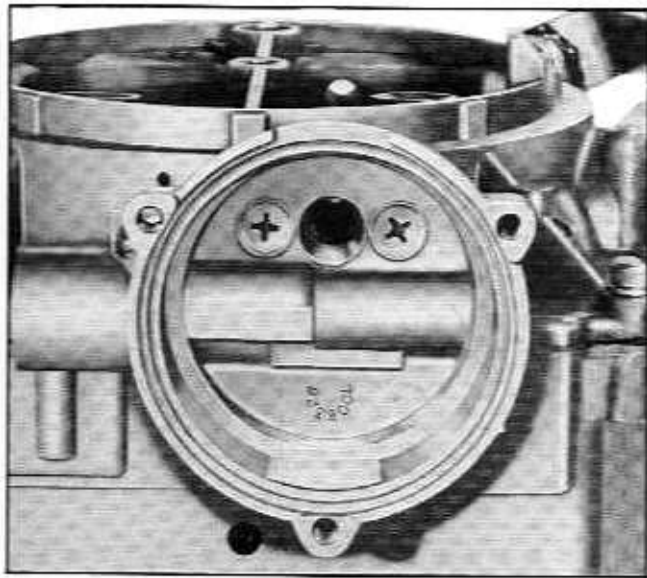

Fig. 6B-81 Location of Choke Housing Attaching Screws
11. Carefully remove air horn by lifting straight up until all parts are clear of carburetor body (Fig. 6B-83).
12. Remove hinge pin and float assembly on primary side (Fig. 6B-84).
13. Remove float needle seat, gasket and strainer screen from primary side (Fig. 6B-84).